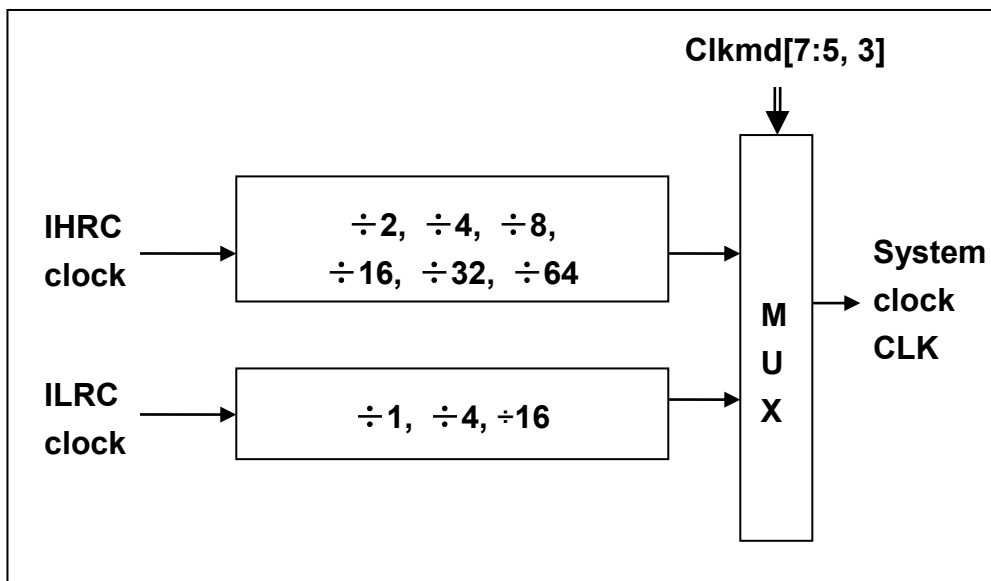

Fig.2: Options of System Clock
The clock source of system clock comes from IHRC and ILRC, the hardware diagram of system clock in the PMB180(B) is shown as Fig.2.